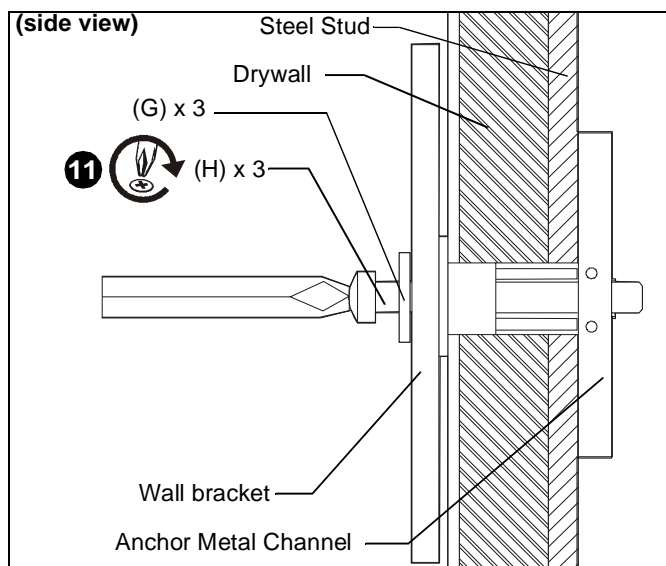

Figure 9
10. Place wall bracket over anchors and align mounting holes in display mount with holes in anchors. (See Figure 9)
11. Insert 1/4-20 x 1-3/4" Phillips pan head screws (H) through 1/4" washer (G), corresponding mounting hole on wall bracket and into anchor (J) and tighten until flush against mount. DO NOT over tighten! (See Figure 9)